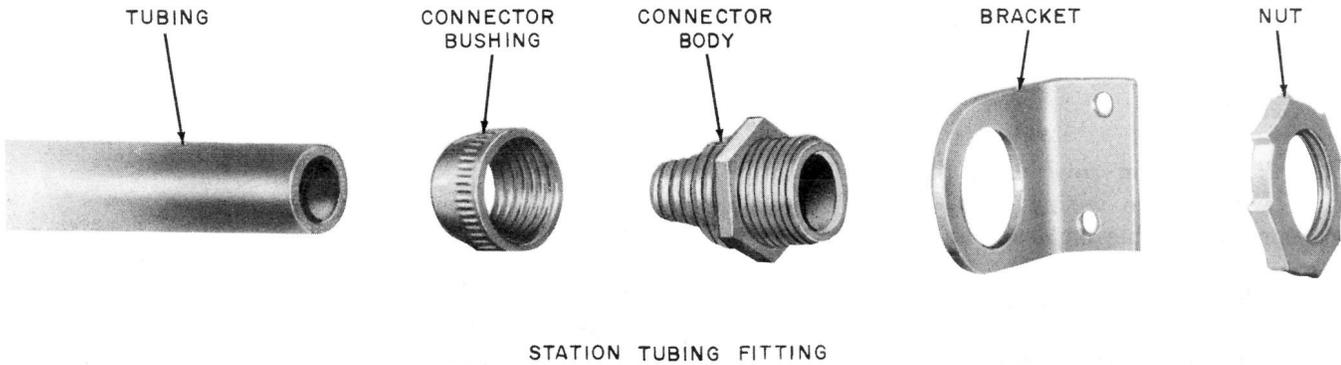

Fig. 2—Assembly of Station Tubing and Fittings to Brackets
2.03 Methods of assembly and uses of station tubing and Wiremold assembly are shown in Fig. 2, 3, 4, and 5.